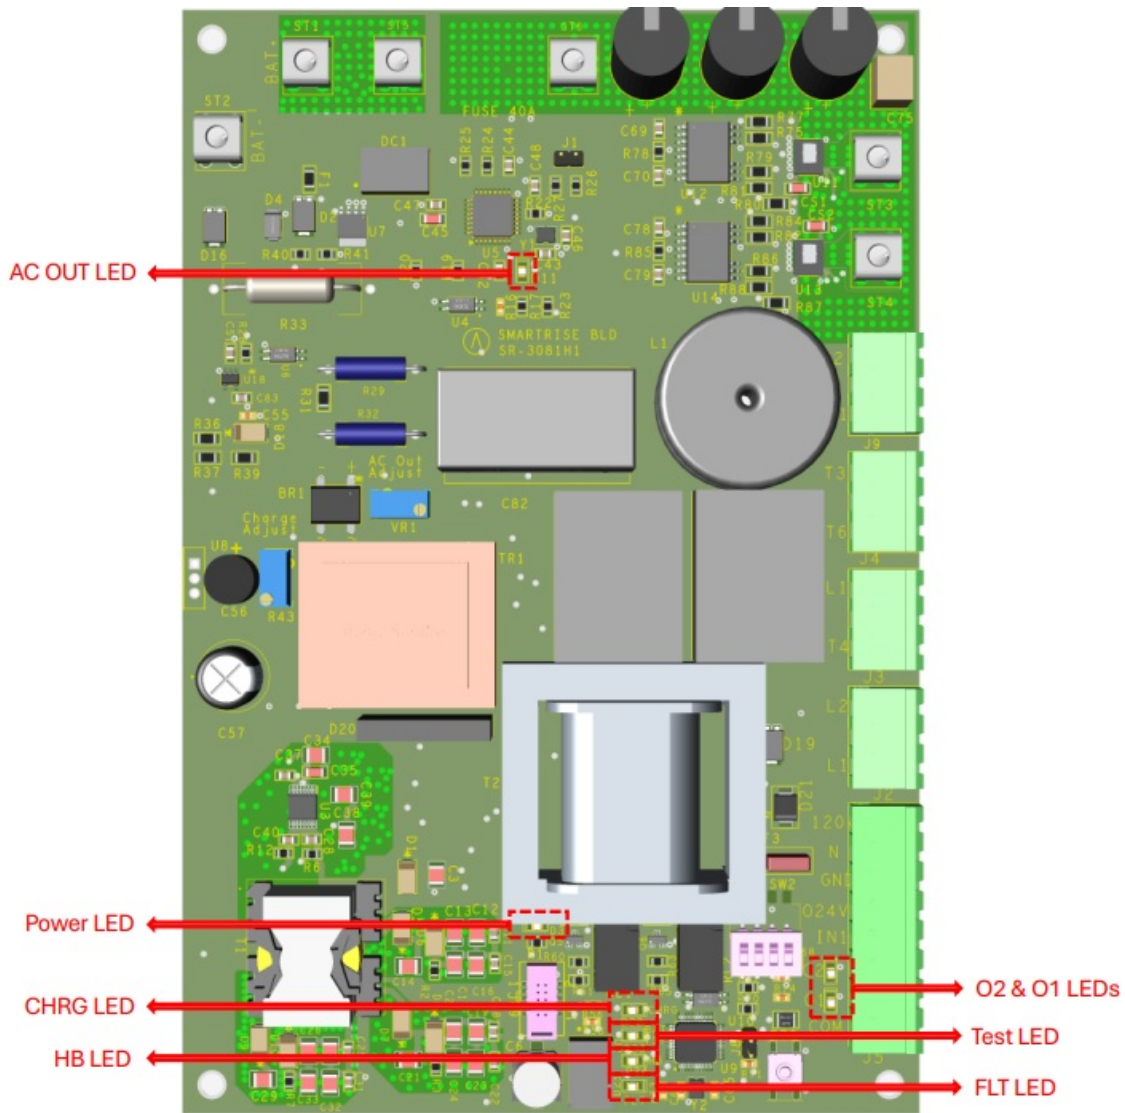

Figure 5: BLD LEDs
- FLT LED: Flashes in cycles to indicate the state and any faults in the BLD [see Figure 5].